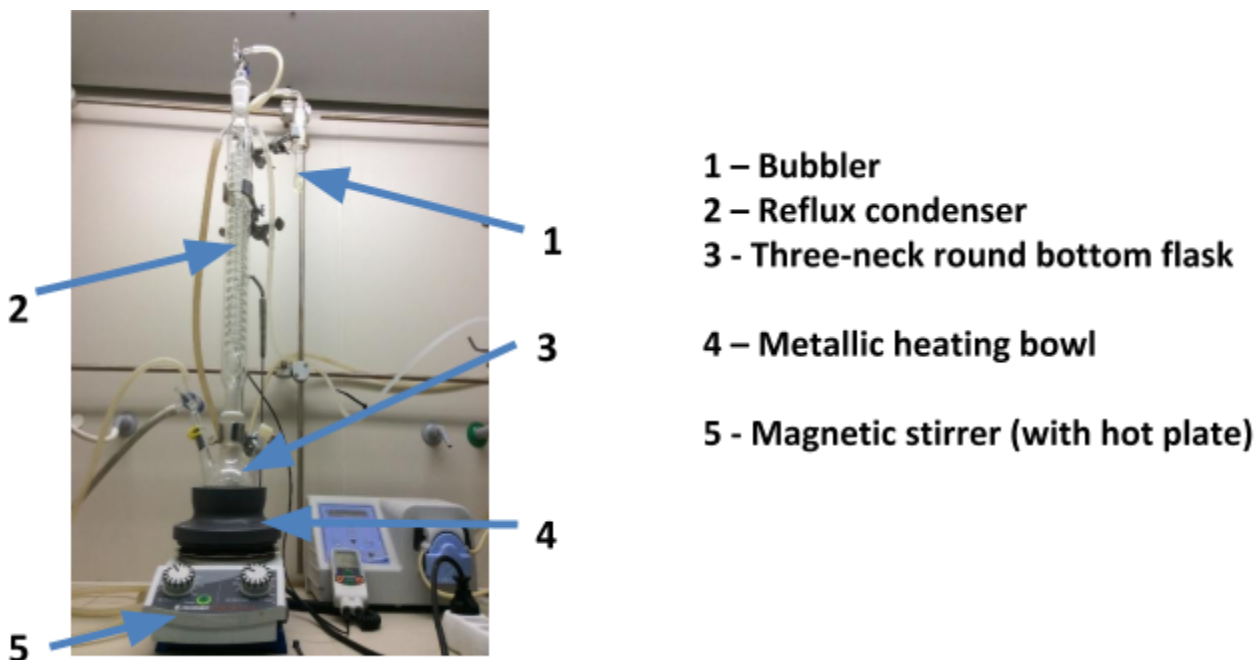

Fig. 2: Setup for emulsion polymerization of styrene
The experimental apparatus is shown in Figure 2. The polymerization is carried out in a three-neck round bottom flask (3) equipped with reflux condenser (2) which is cooled by a recirculation of water to ensure no material loss by evaporation. The bubbler (1) is used to ensure the presence of inert gas atmosphere (in our case nitrogen) throughout the polymerization. The reaction solution is heated using a metallic heating bowl (4) placed on a magnetic stirrer/heating plate (5).